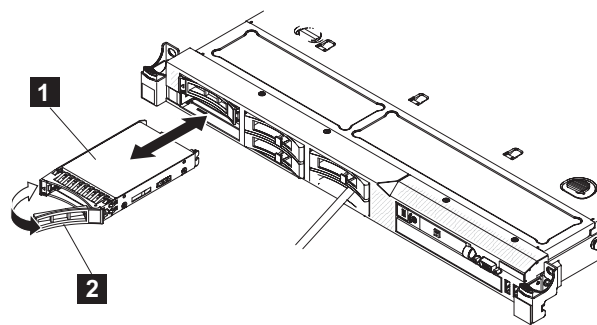

Figure 114. Solid-state drive (SSD) for the SAN Volume Controller 2145-CF8
- b. Rotate the drive handle to the open (unlocked) position, as shown in Figure 114.